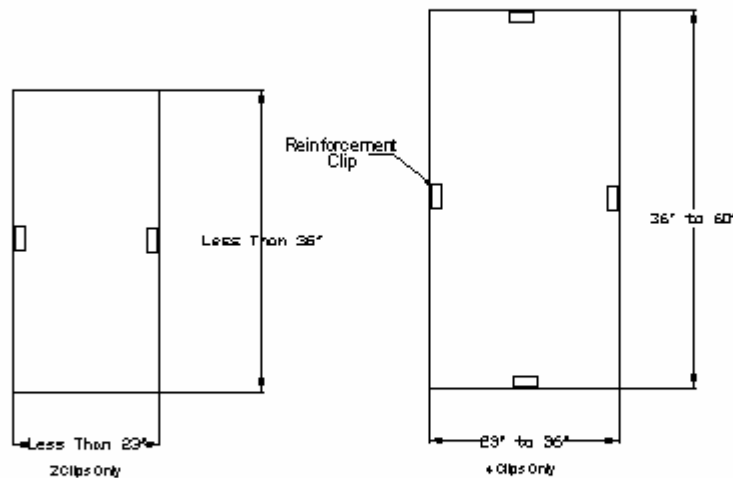

FIGURE 1
- 2.) Insert reinforcement clips as required per Figure 1. Clips are not required in doors with surround channel.